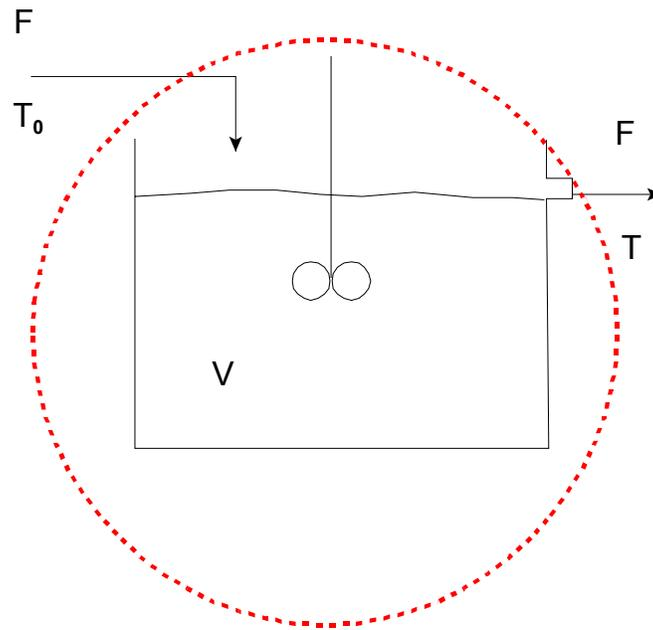

Figure 3.2
- Determine the dynamic response of the tank temperature, T , to a step change in the inlet temperature, T_0 , for the continuous stirred tank shown in the Figure 3.2 below.